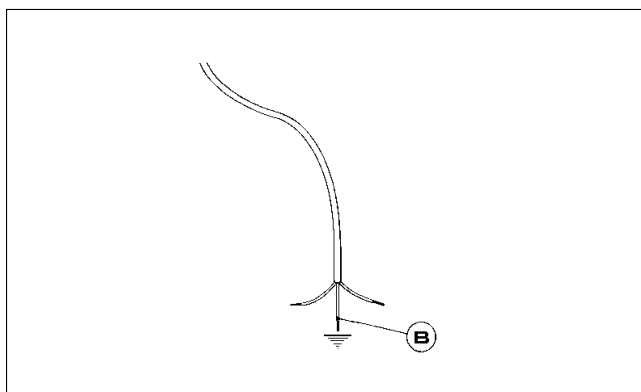

FIG. 16
*If the power supply cable is replaced, the installer should leave the ground wire (B) longer than the phase conductors (fig. 16) and comply with the recommendations given in paragraph 6.*